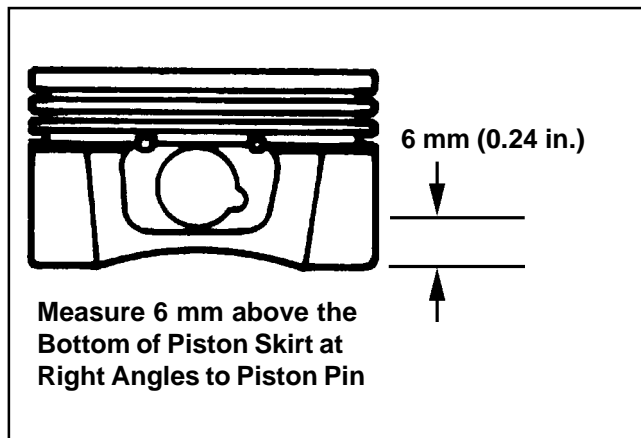

Figure 10-4. Measuring Piston Diameter.
1. Use a micrometer and measure the diameter of the piston **6 mm (0.24 in.)** above the bottom of the piston skirt and perpendicular to the piston pin (see Figure 10-4).